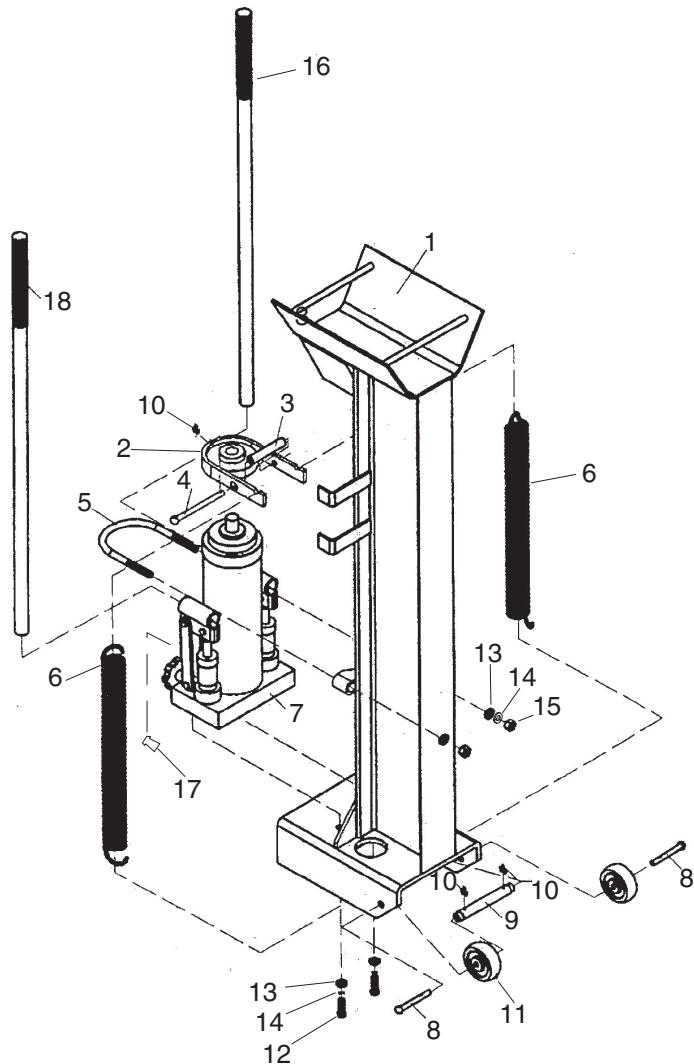

**Figure 3. Oil Seal.**
2. Remove the oil seal (**Figure 3**).